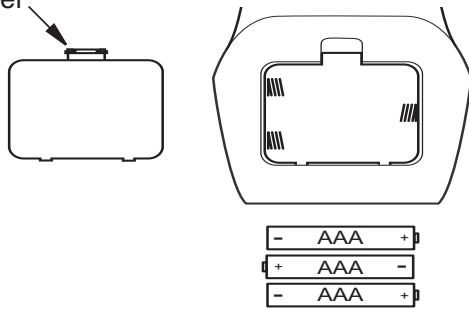

Figure 38 - Battery Install Hand-Held Remote Control
1. Remove battery housing cover from back of hand-held remote (see **Figure 38**).